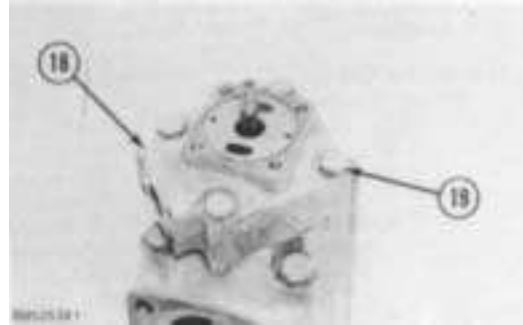

FIGURE 7-17
10. Remove the bolts (19, Figure 7-17) and remove the pump cover (18).